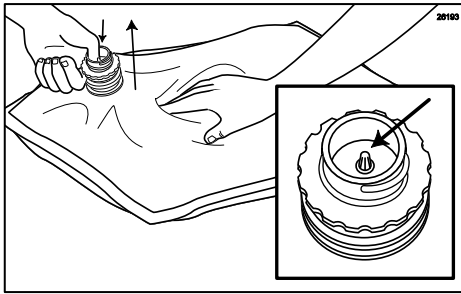

Figure 43
6. Lifting up with the bag fitment, press the center pin of the bag fitment valve and gently press on the bag to release any excess air. (See Figure 43.)